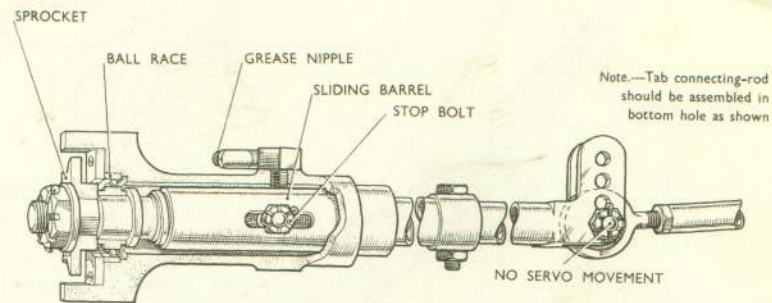

Fig. 7 Elevator tab jack
(2) Set the tab jack (Fig. 7) on the rear spar of the tail plane in the neutral position (i.e., by taking the mean extension of the ram).
(3) Place the chain on the sprocket with an equal number of pitches on each side. Connect and tension the cables between the chain and the Teleflex controls.
(4) Set the elevator neutral, and initially adjust the tab connecting rod to set the tab at neutral with the tab position indicator at zero.